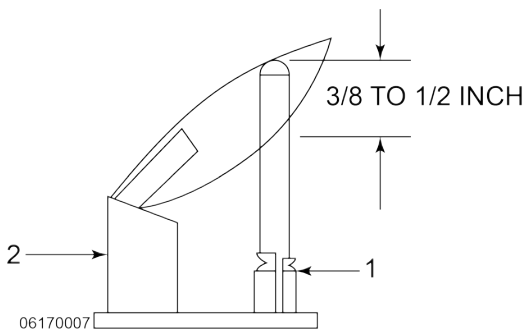

Figure 2-10 Pilot & Thermocouple Assembly
- 3) Install the new thermocouple, being careful not to create sharp bends in the tubing. When the pilot (2) is lit, the flame must surround the top of the thermocouple, see Figure 2-10 Pilot & Thermocouple Assembly, page 32.